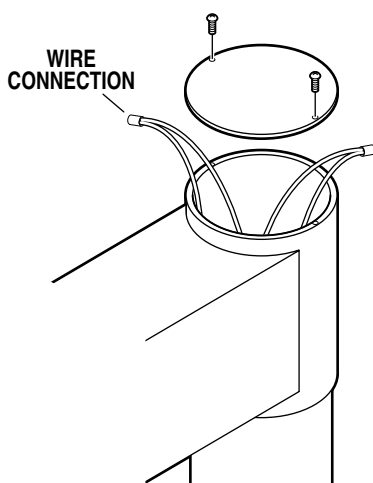

Figure 2-14. Bulb Voltage Test
a. Remove top cover from VST end of radial arm and test bulb voltage at the wire connections. Turn main power "ON" and set the Dimmer Control for the lighthouse being tested to maximum intensity for the test. Output voltage (at the connectors) should be $20\text{V} \pm 0.2\text{V}$. See figure 2-14.